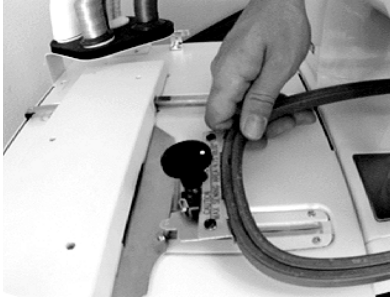

Figure 3-1
1. Hold the hoop at a slight angle (approximately 15 degrees) and slide the mounting plate into the pantagraph opening, as shown in Figure 3-1.